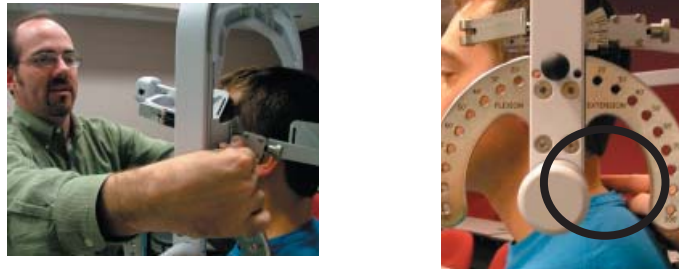

Figure 6-45. Final Adjustments and Locating C5/C6
Step 12. Make fine adjustments to the seat to line up C5/C6 of the patient's spine with the pivot point of the halo (Figure 6-45).